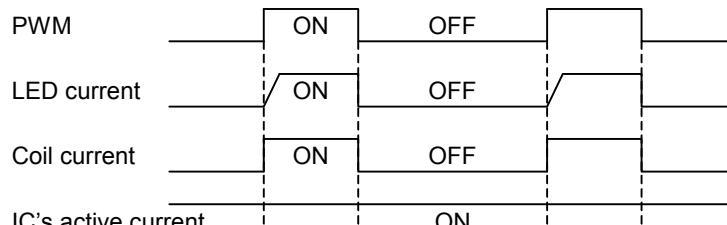

Figure 7. Current driver PWM control
1) Current driver PWM control is controlled by providing PWM signal to PWM terminal, as it is shown Figure 7.